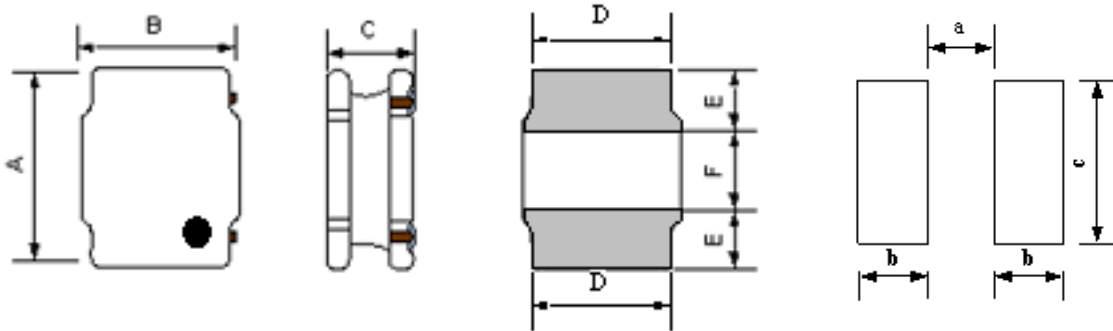

Fig.3-1,
| 9.2 Resistance to Flexure | No visible mechanical damage.  <p>R230 20 10 45[1.772] 45[1.772] fluxure 2mm Fig.8.2-1</p> | ① Solder the chip to the test jig (glass epoxy board) using eutectic solder. Then apply a force in the direction shown as Fig.9.2-1 . ② Flexure: 2mm ③ Pressurizing Speed: 0.5mm/sec ④ Keep time: 30±1s ⑤ Test board size: 100X40X1.0 ⑥ Land dimension: Please see Fig. 3-1 |